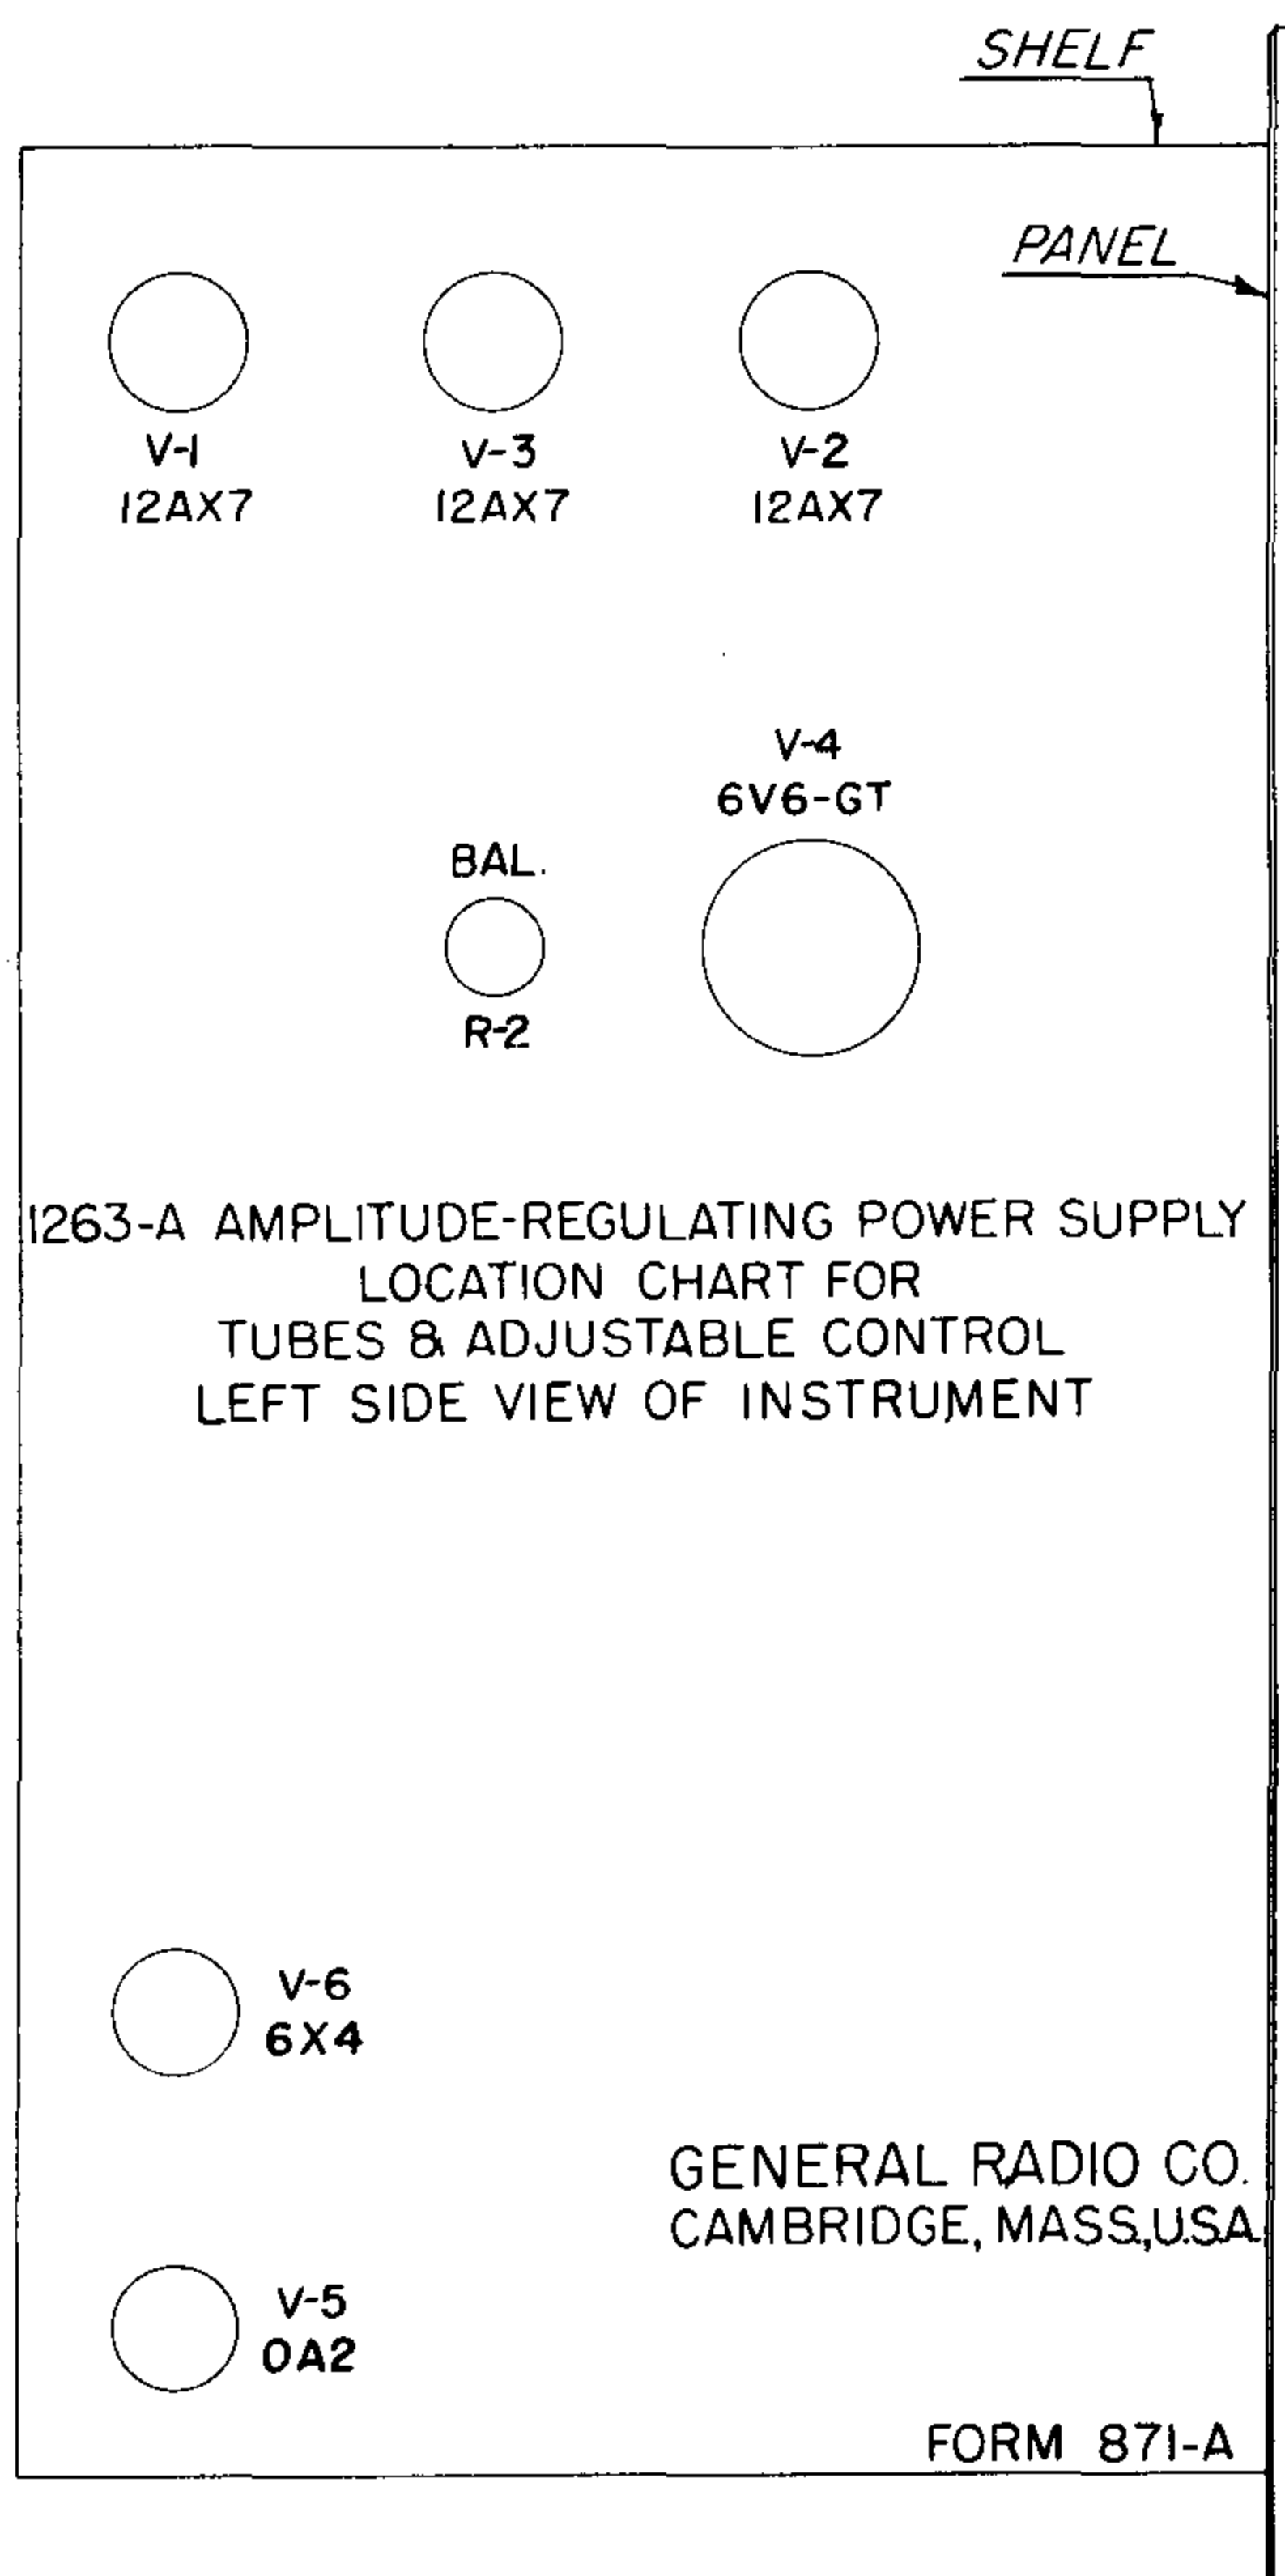

Figure 5. Tube Location Chart for Type 1263-A Amplitude-Regulating Power Supply.
6.1 TUBE REPLACEMENT. Refer to the tube location chart (Figure 5). Tube requirements are not particularly critical, although careful selection may be required for V4, since the cutoff bias of 6V6GT tubes can vary over wide limits. Refer to paragraph 6.2 to determine acceptability of tubes for this location. The important characteristic of V1, V2, and V3 is balance between sections. It is usually possible merely to interchange V1, V2, and V3 to obtain proper operation with a given set of tubes. The proper functioning of V2, which is the d-c amplifier, is checked by the meter standard-